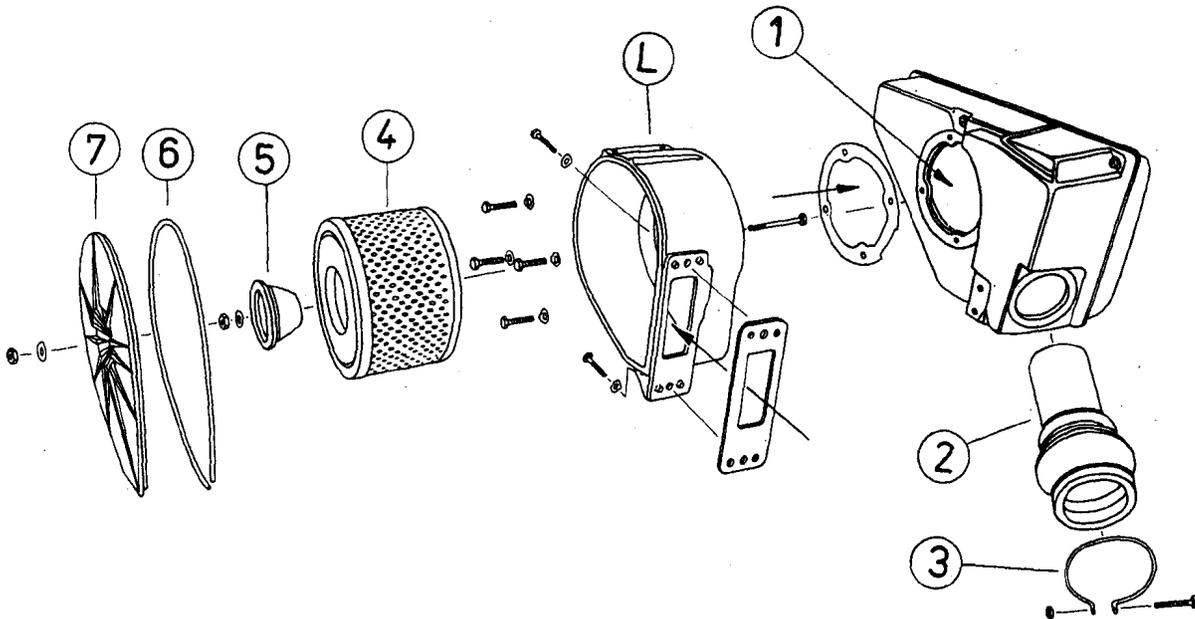

Fig. 187. Intake silencer and air filter
After leaving the induction pipe, the air flows back into the frame member and enters the air filter casing (L) tightly screwed to the frame tube, see Fig. 187.
For the ETZ, a dry air filter is used. The air filter (4) is arranged in the filter casing. It is centred with the one face in the casing and with the other face in a cup (5) which is guided on a threaded bolt and fastened on it (Fig. 187). In order that the filter is properly sealed at its two faces, the cup (5) and the cover (7) must be screwed in such a way that the air filter is properly fixed and the packing (6) can fulfil its function. The filter will be accessible after the removal of the battery. The dust is deposited on the exterior surface of the filter. This must be taken into consideration when cleaning it. The dry air filter is cleaned by slightly tapping it or by brushing by means of a dry and clean hair brush.